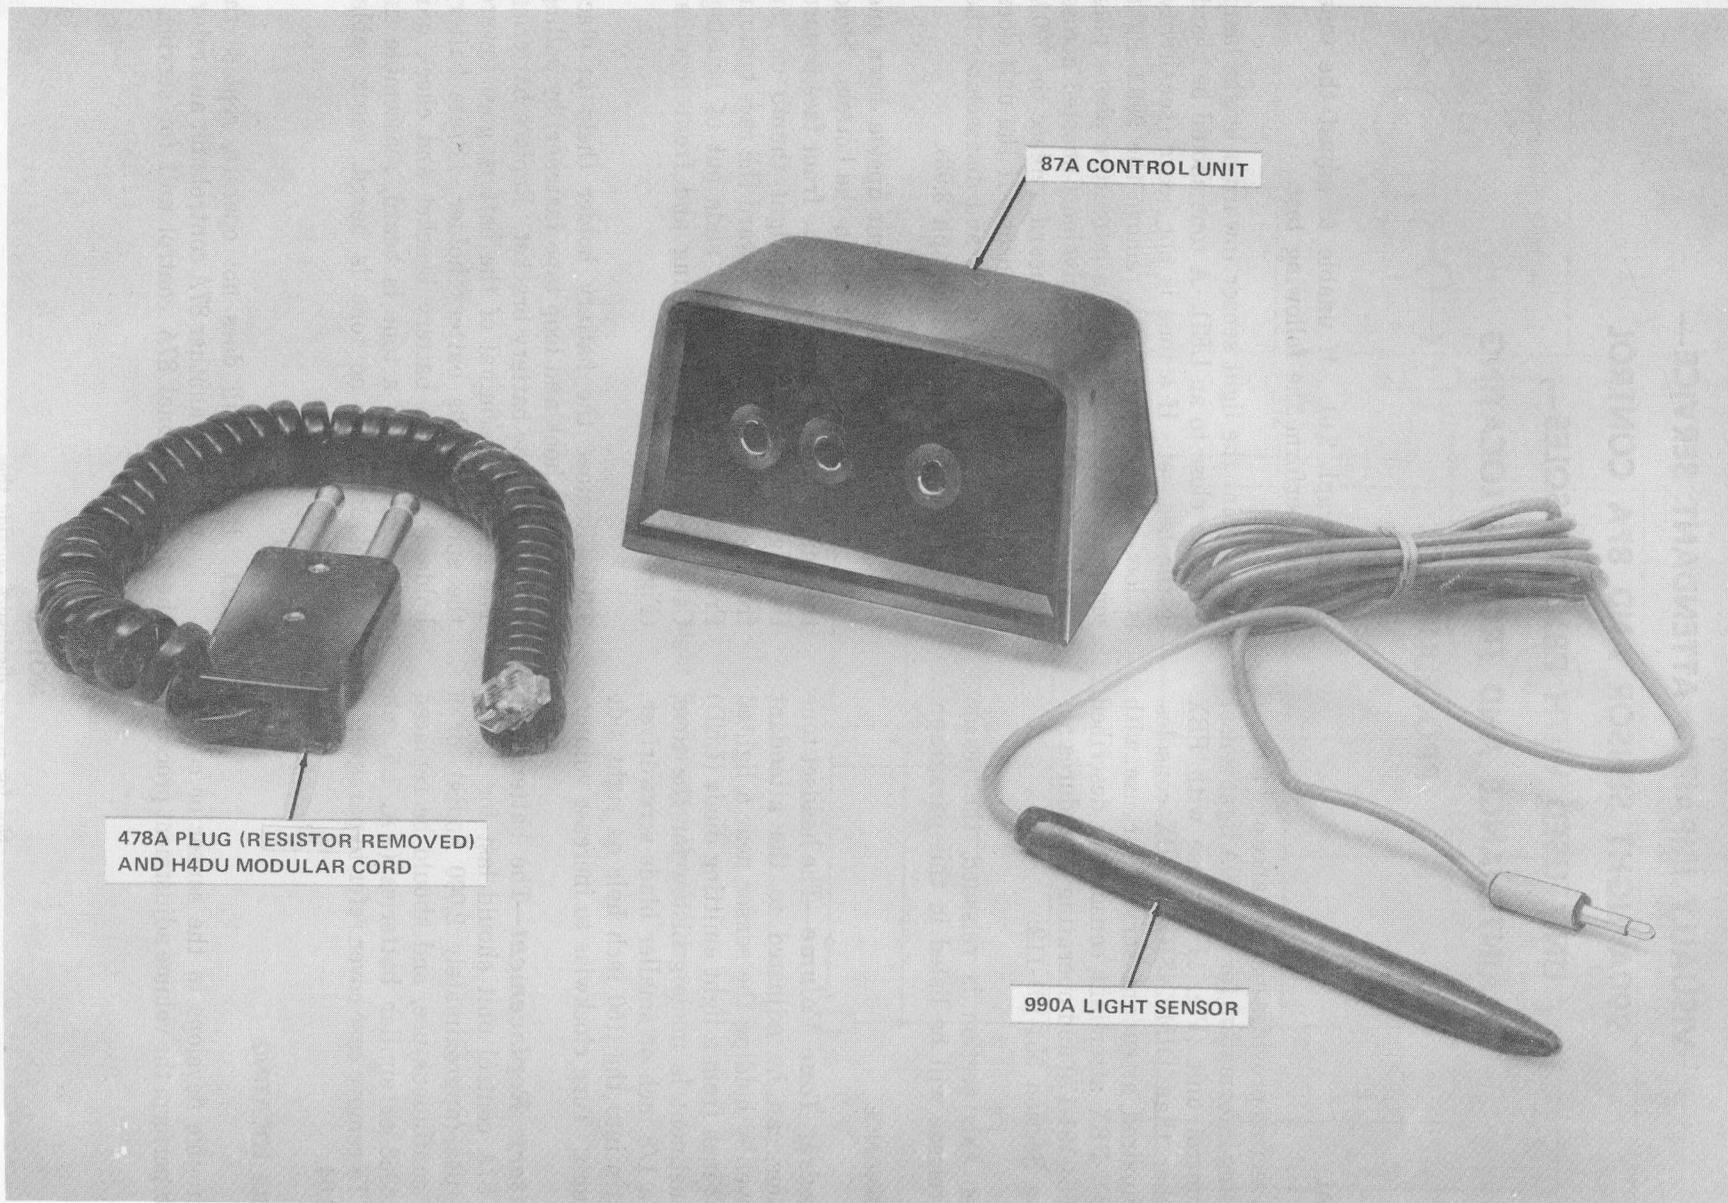

Fig. 1—Control Unit, Light Sensor, and Cord Assembly
**1.01** This section provides maintenance and trouble locating information for the 990A light sensor and 87A control unit (Fig. 1) for use with PBX consoles other than DIMENSION® PBX consoles. Visually impaired attendant service for use with DIMENSION PBX attendant consoles is described in Section 554-191-170 and operating procedures are described in Section 554-191-112.